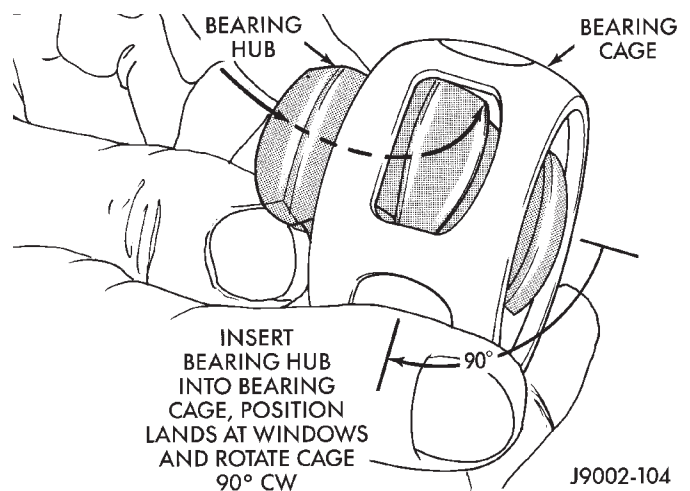
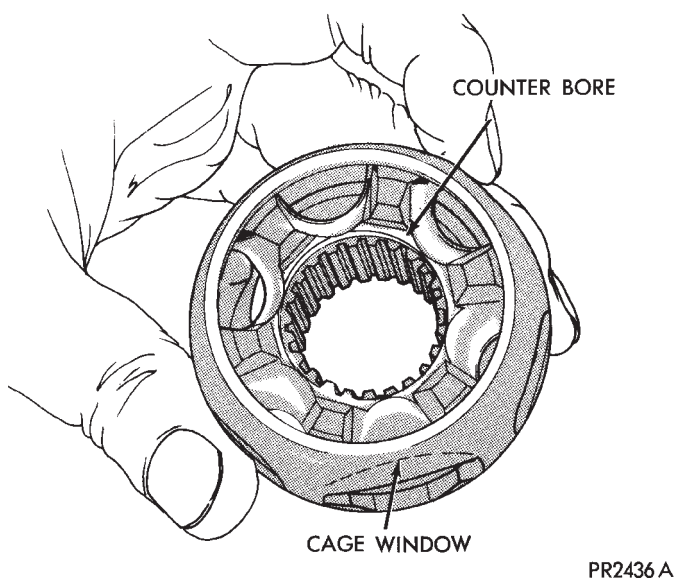

Fig. 15 Bearing Hub Installation
Fig. 16 Assembled Bearing Cage & Hub
(3) Insert one of the bearing hub lands into a bearing cage window and roll it into the cage (Fig. 15). Rotate the bearing hub 90° to complete the installation (Fig. 16).